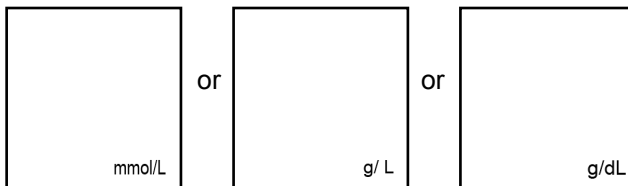

Fig. 16
- Press ◀ or ▶ button to select target unit, press ⏻ button to enter sound set. (Ref Fig. 16)